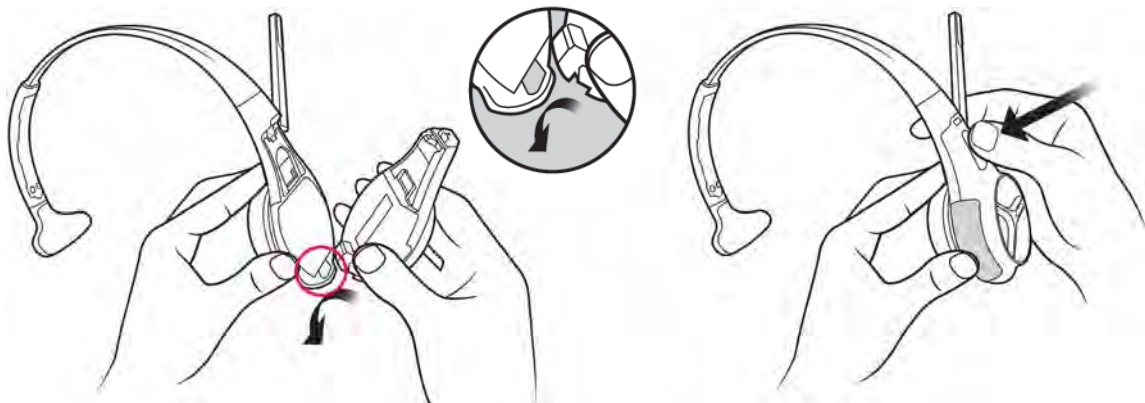

Figure 10.
2. Align Charging Contact Block on Control Pod into the Charging Contact Block Receptacle of the Headset Carrier. Once the Charging Contact Block is set into in the Receptacle it will act as hinge or pivot point. See Figure 10.
3. Gently press the two halves together until they securely snap into place at the top. You may need to apply a slight downward pressure to align the connections appropriately. When the Control pod is connected to Carrier you will hear a slight click sound. See Figure 10.